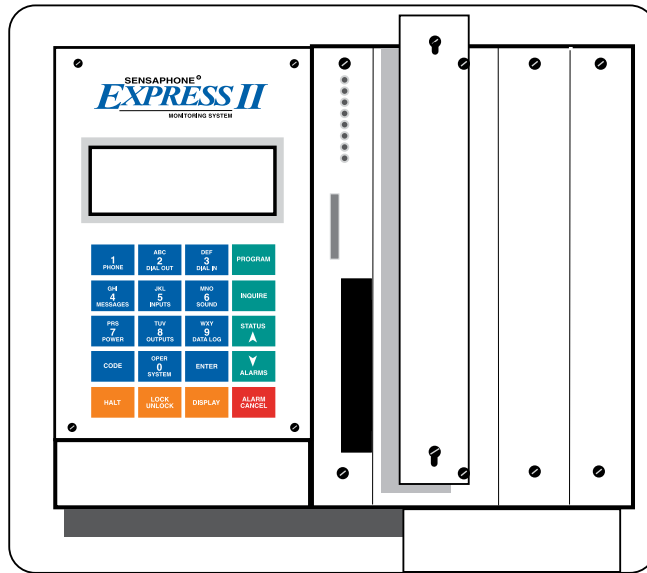

Figure 10: Remove blank plate
2. Working from left to right, loosen the thumbscrews and remove the blank plate of the first unused slot. See Figure 10.